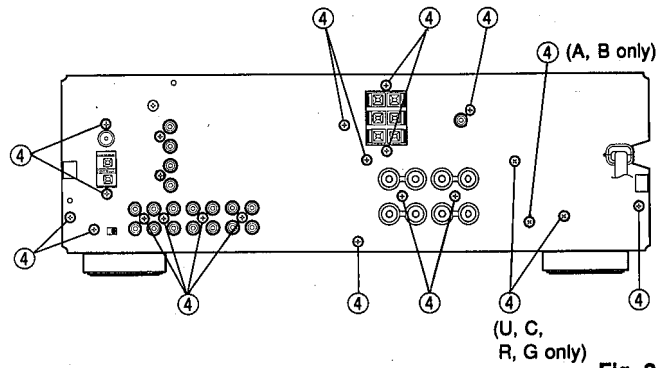

Fig. 2
**3. Checking and Parts Replacement of P. C. B. MAIN (1).**
- b. Remove 19 screws ( ④ ) fixing the Rear Panel in Fig. 2.